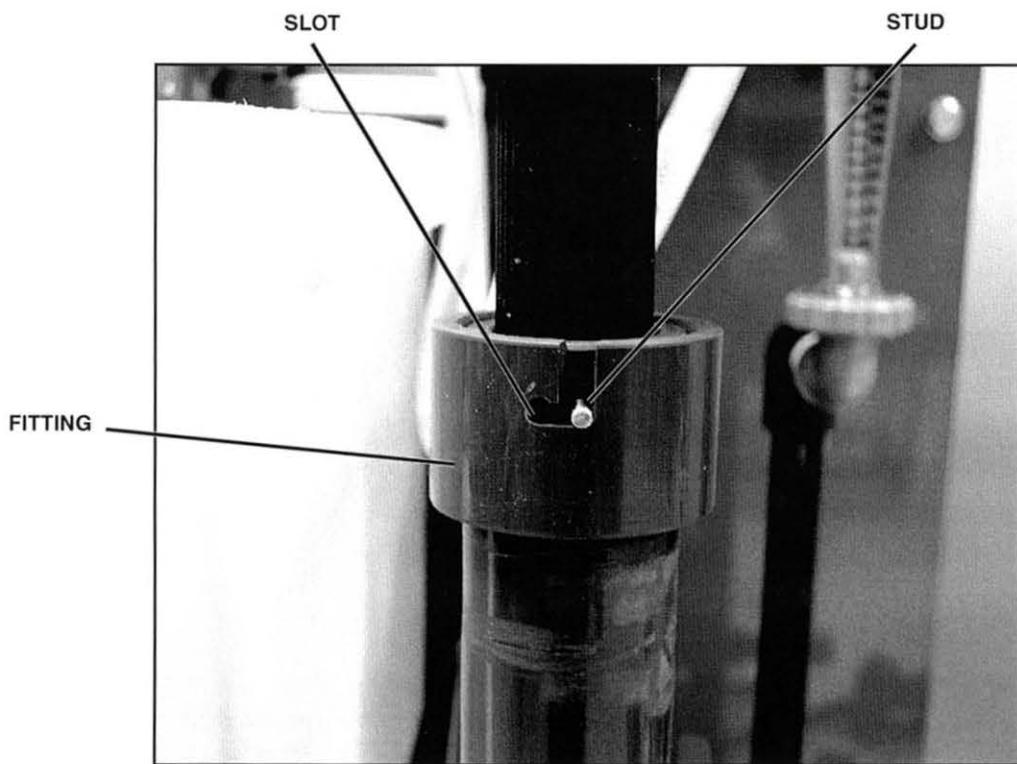

Figure 61. Studs Disengaged from Slots in Fitting
- A. Grasp the housing of the electrode and turn it counterclockwise until the studs on the electrode housing are disengaged from the slots in the fitting, as shown in figure 61.